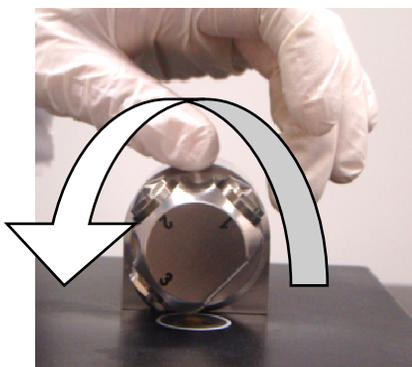

Figure 8. Rotating the DialPath
- 1 Open the DialPath by rotating the arm (see Figure 8).